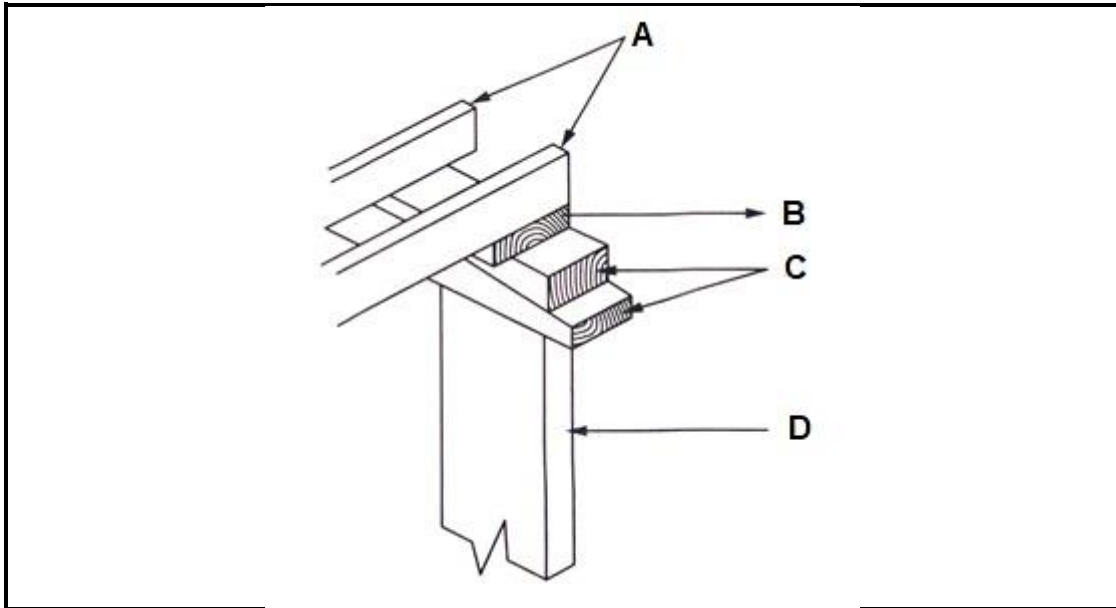

FIGURE 5.4
- 5.4 FIGURE 5.4 below shows a pictorial view of the construction detail underneath a centre of an arch. Study the picture and answer the questions that follow.
- 5.4.2 Explain ONE use of **A** as shown in FIGURE 5.4. (1)